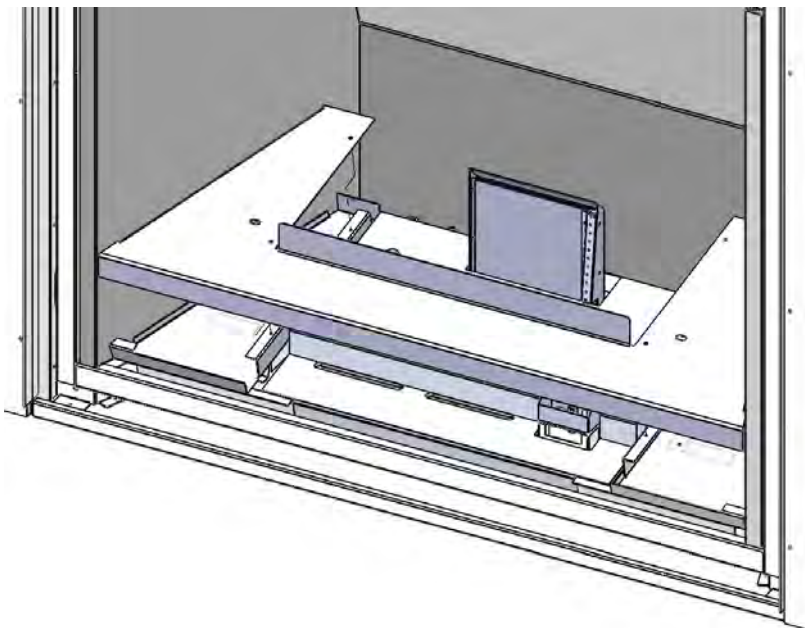

Figure 52: Installing The Log Burner Accent
16. Install the Log burner accent to the burner cover supports with four (4) T-20 Torx as shown in Figure 52.